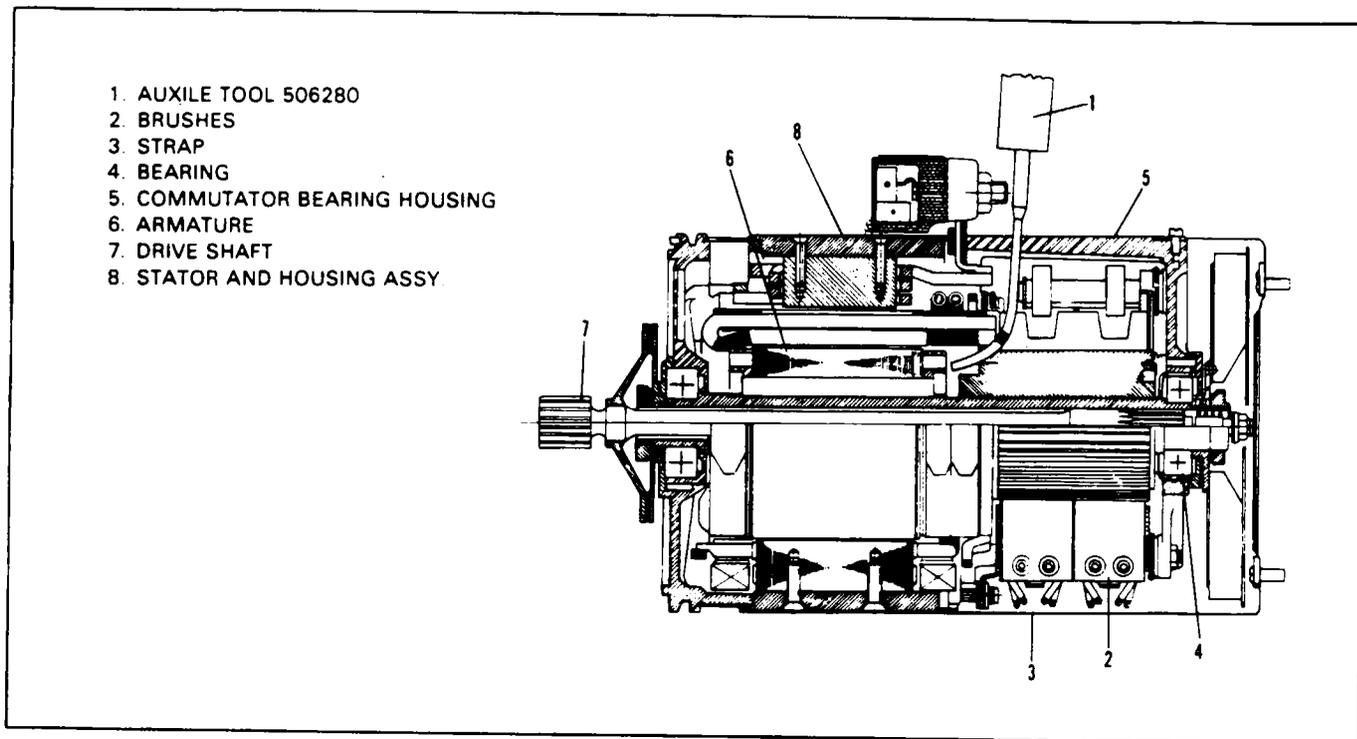

Figure 24-2a. Position of Auxilec Tool for Blowing out Carbon Dust from Auxilec 8013C Starter-Generator
**REMOVING CARBON DUST FROM AUXILEC 8013C STARTER GENERATOR.** (Refer to Figure 24-2a.)
- A. Insert the nozzle of the tool between the radial leads connecting the bars of the commutator to the conductors up to the black band (on the tool nozzle) as shown in Figure 24-2a.